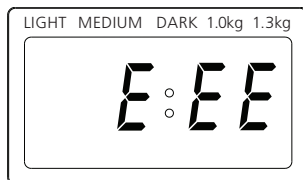

Fig. 2
2. If **E:EE** is displayed after pressing the **START/STOP** button (see fig. 2 below), the temperature sensor circuit has been disconnected. Have an authorized technician inspect the sensor.